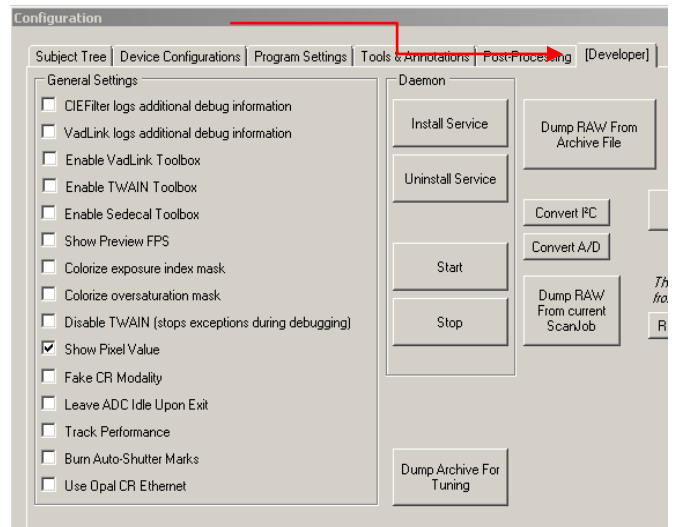

Figure 3
- d. Select the *Developer* Tab from the Configuration screen. *Figure 3*